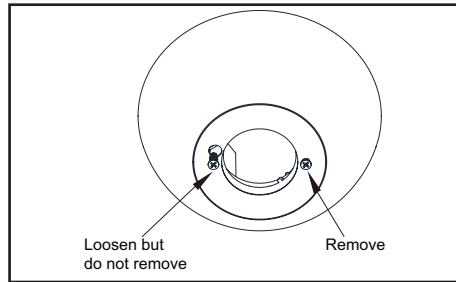

Figure 6
2. Remove the non-slotted screw and loosen but do not remove the slotted screw. This will enable you to remove the mounting bracket from the canopy. (Figure 6)